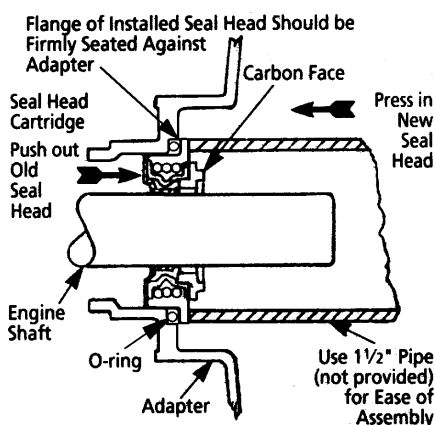

Figure 2 – Mechanical Seal Replacement
11. Place adapter seal (o-ring) onto seal head behind flange and press assembly into adapter as shown in Figure 2.